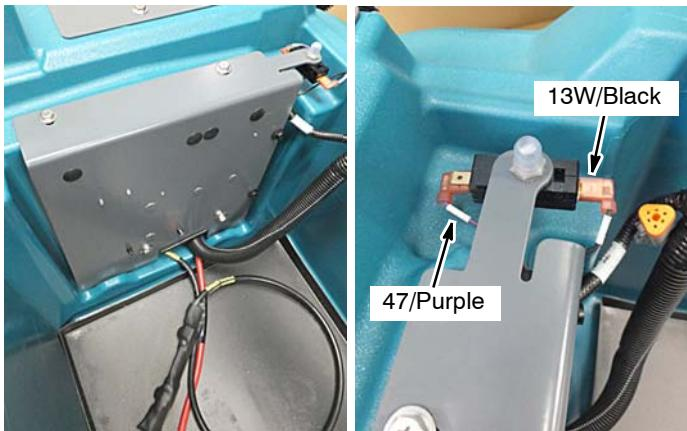

Fig. 6
2. Reinstall the electrical panel and reconnect the two wires to the safety switch as shown (Figure 6).